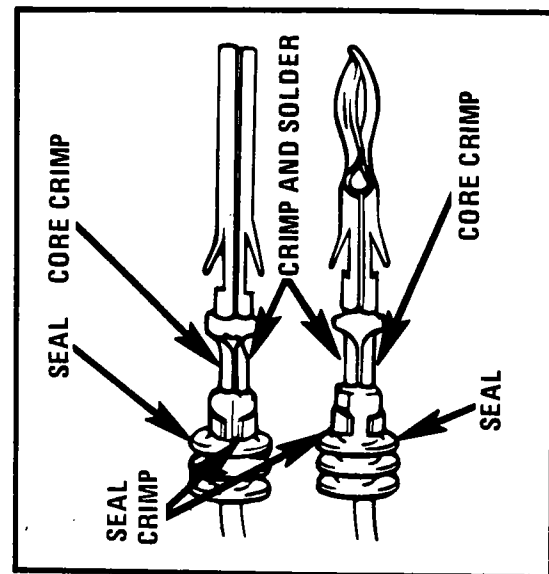

Figure 30 - Replacing The Terminal
- Crimp the new terminal over the copper strands (core crimp) as shown in Figure 30. (Use a standard crimping tool-number J25563 in the Kent-Moore catalog.)
- Crimp the grips at the end of the terminal around the cable seal and insulated wire as shown in Figure 30 (insulation crimp). Apply light pressure for this crimp.